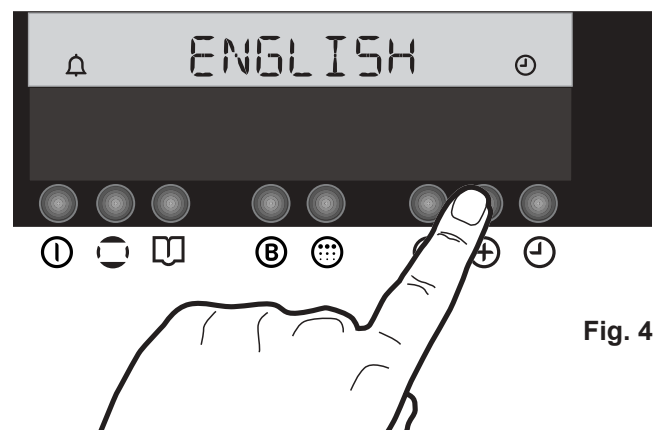

Fig. 4
2. Within 5 seconds, press button + to select your language (Fig. 4).